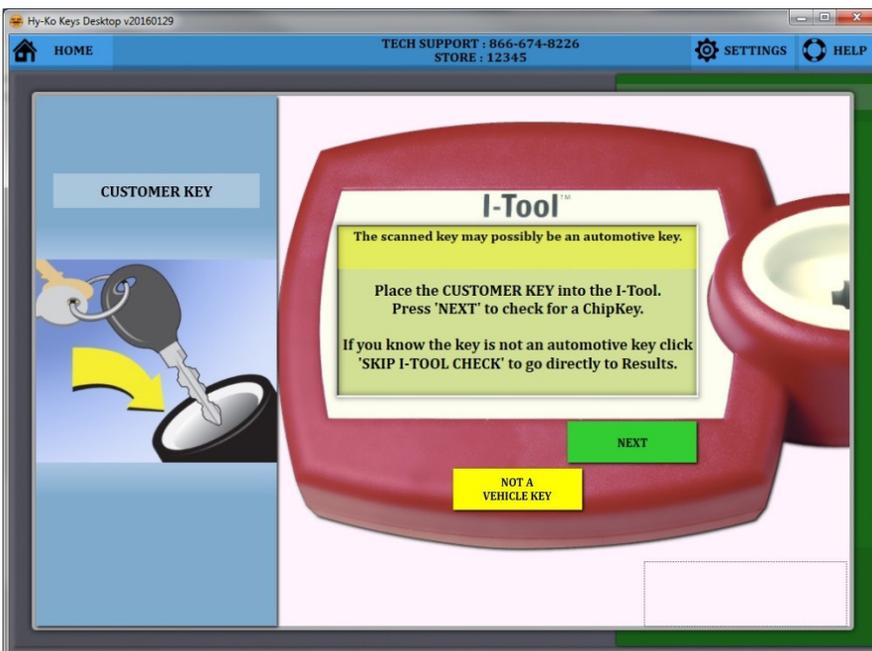

fig. 56
- Being a double-sided key the Vision Box will assume that the key is an automotive key and take you to the I-Tool screen (see fig. 56).